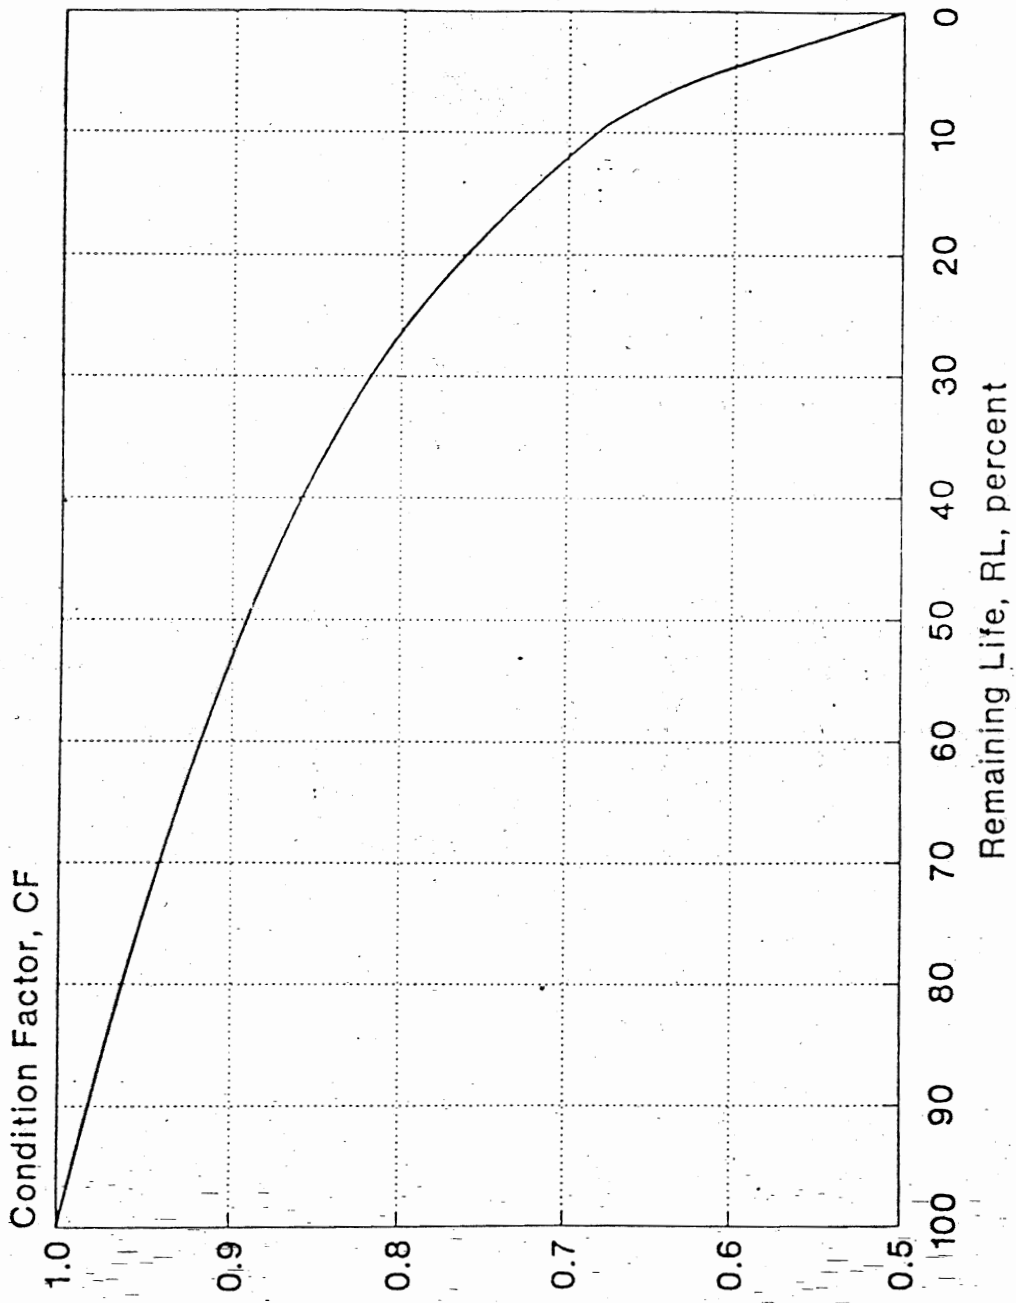

Figure 5.2. Relationship Between Condition Factor and Remaining Life
3. Remaining Life (Figure 5.2)